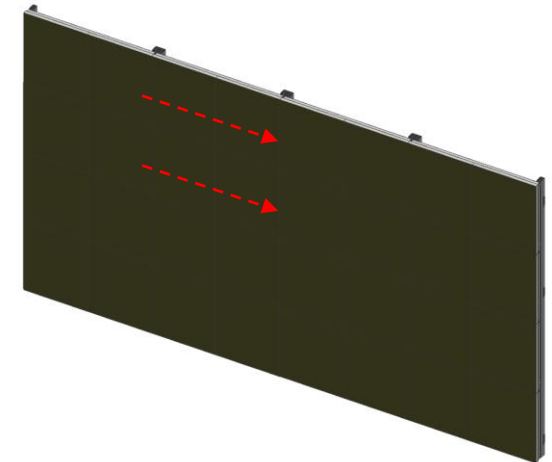

Fig.6 Installing of the 3th and 4th stage of the Cabinet
- ⑥ Install the 3 and 4 steps in the same order. (Fig.6)